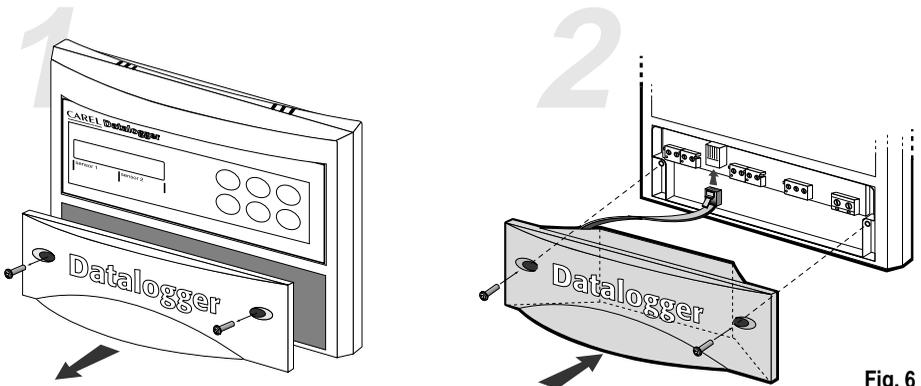

Fig. 6
3. Connect the telephone cable from the IR unit to the telephone connector in the Datalogger (See Fig. 6)